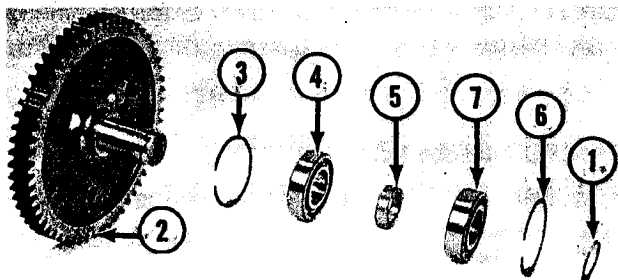

FIGURE 29. OIL PUMP DRIVE
Refer to Figure 29 and follow the numerical sequence for removal of pump drive. Remove retaining ring (1) from hub of pump
For reassembly reverse the numerical sequence of disassembly as shown in Figure 29.